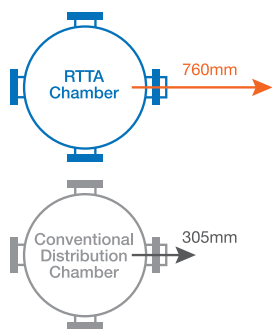

Fig. 1: 2.5x more extension
1. Extend 2.5 times further than conventional designs, with the same size distribution chamber (Fig. 1).